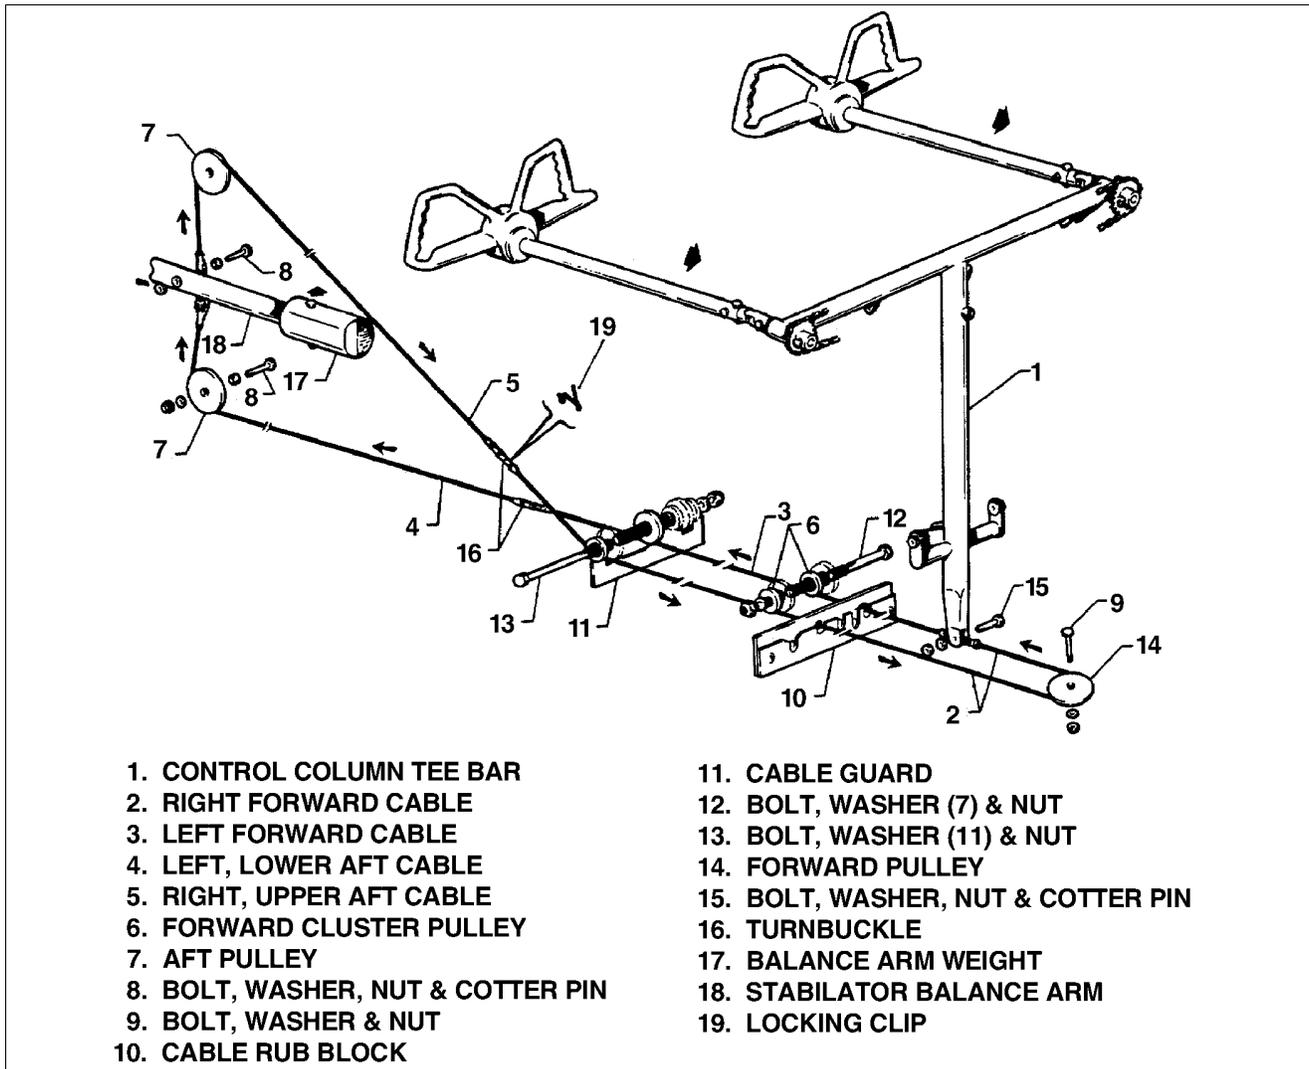

Figure 27-19. Stabilator Controls
B. Stabilator Cables Removal. (Refer to Figure 27-19.)
**C. Stabilator Cables Installation (Refer to Figure 27-19.)**